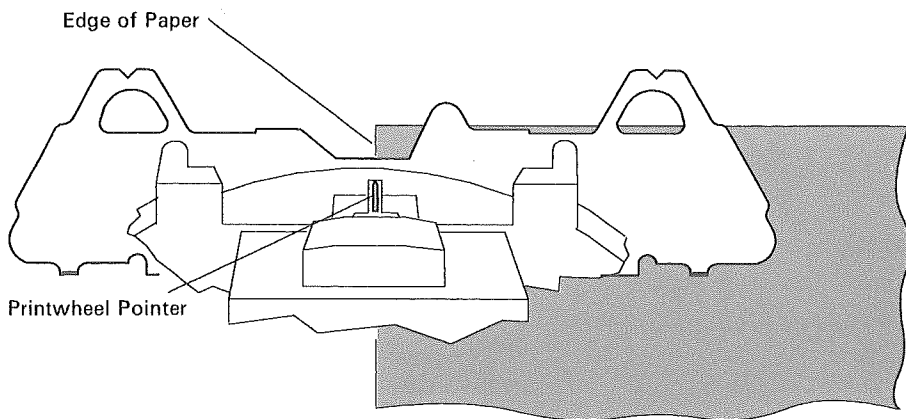

Figure 4-2.
3. Use the ↓, ↑, **Paper Up (Micro)**, and **Paper Down (Micro)** keys to position the form with the top edge of the paper aligned with the top of the paper guide. See Figure 4-2.